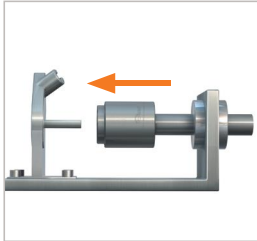
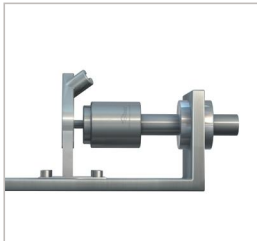

Figure 1
Figure 2
- ▶ Be careful to place the connector straight up to the stop onto the test piece (*Figure 1* and *Figure 2*). Doing so will prevent any damage to the front seal caused by any sharp edges on the test piece and ensure a correct connection.